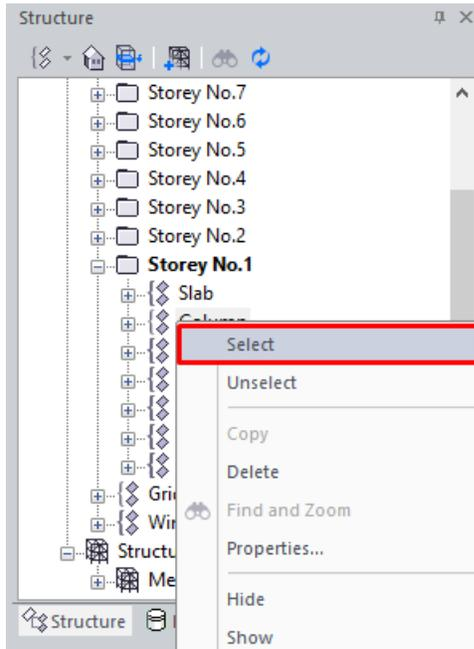

Figure 27.9. Select columns using the tree-structure of the project
- On the shortcut menu, click **Select** (see Fig. 27.9).